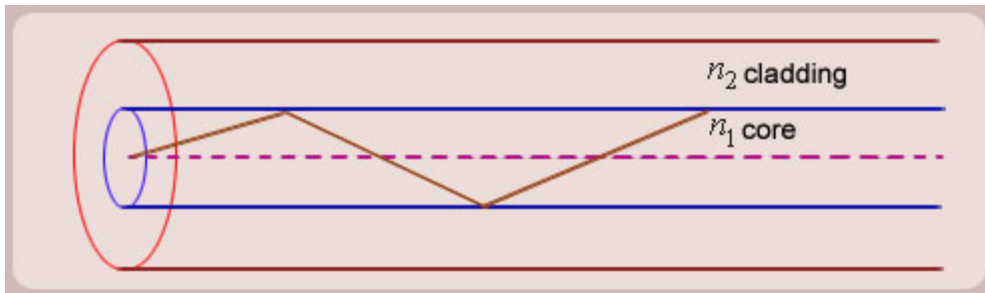

Figure 2 (optical fiber with core, cladding and total internally reflected ray)
- A light ray is launched in a plane containing the axis of the fiber. We can then see the light ray after total internal reflection travels in the same plane i.e., the ray is confined to the plane in which it was launched and never leave the plane. In this situation the rays will always cross the axis of the fiber. These are called the **Meridional rays**. (Fig. 2)